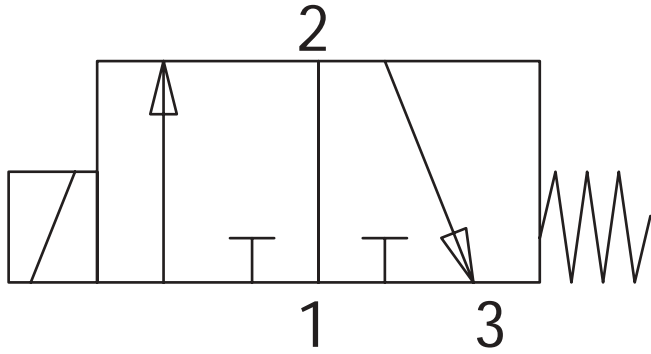
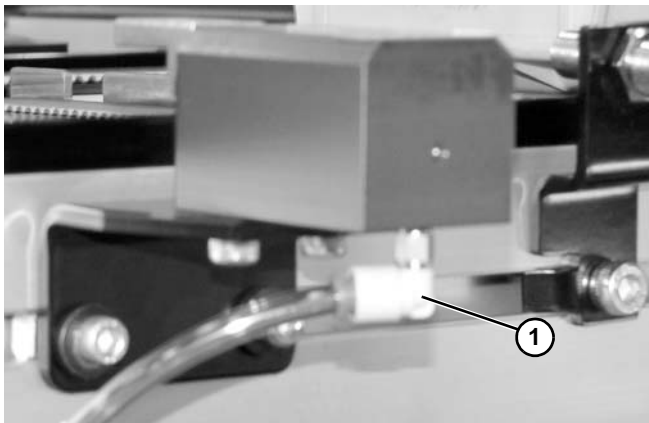

Figure 44
Figure 45
Dorner recommends using a 3 port, 2 way solenoid valve (Figure 44) to operate cushion reset.
1. Connect port 2 (Figure 44) of the 3 port, 2 way valve to the cushion reset port (Figure 45, item 1).